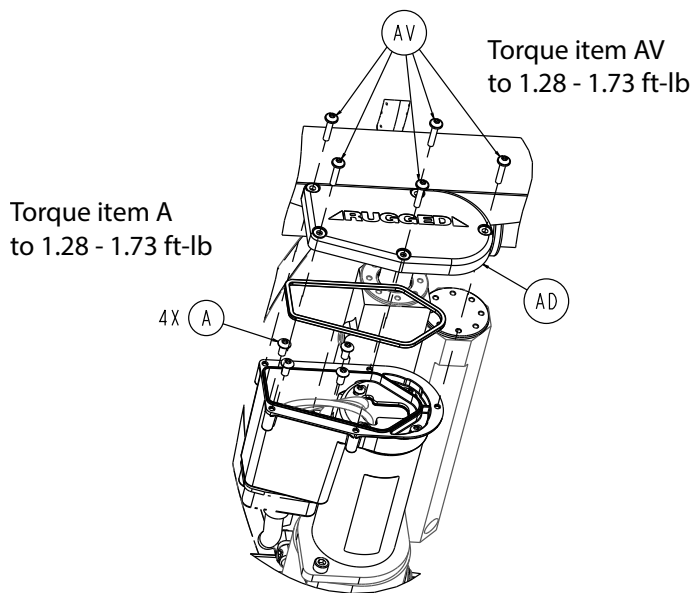

Figure 43 – Lift motor cable assembly components
11. Using a T20 Torx driver, remove the five round washer head tapping screws (AV) that secure the actuator end cap (AD) to the hydraulic assembly electrical box (Figure 43). Save the screws and end cap.
13. Using a T25 Torx driver, remove the four button head torx screws (A) that secure the lift motor cable assembly to the actuator cover (Figure 43). Remove and save the lift motor cable assembly. Save the screws.